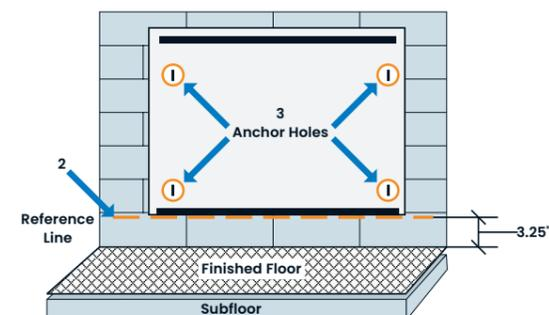

Figure 2: Add reference line
2. Make a reference line on the wall 3.25" above the finished floor (see **Figure 2**).